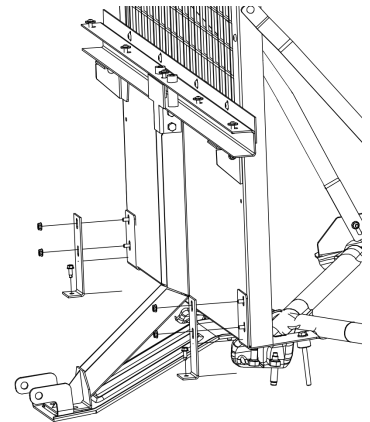

Fig. 4
C. Next, place the two (3OSB4715-04) bottom foot brackets at the lower section of either end of the barrier. The two nuts previously installed will need to be removed and reinstalled with the foot brackets on each side. (See Fig. 4)